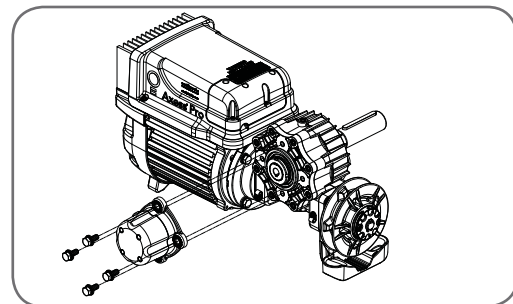

fig 06
3. Line up the shaft of the timing assembly with the keyway onto back of the drive shaft. Push and secure the timing assembly with screws ensuring the grommet is toward the motor (**Fig. 06**).